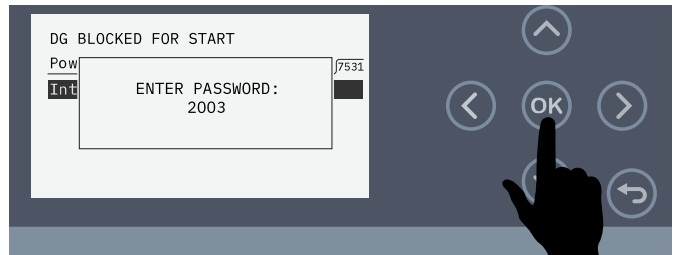

Figure 96. Enter Master Password (2001)
6. The master password is **2001**. Use the arrow buttons to enter the master password (Figure 96), then press the OK button.